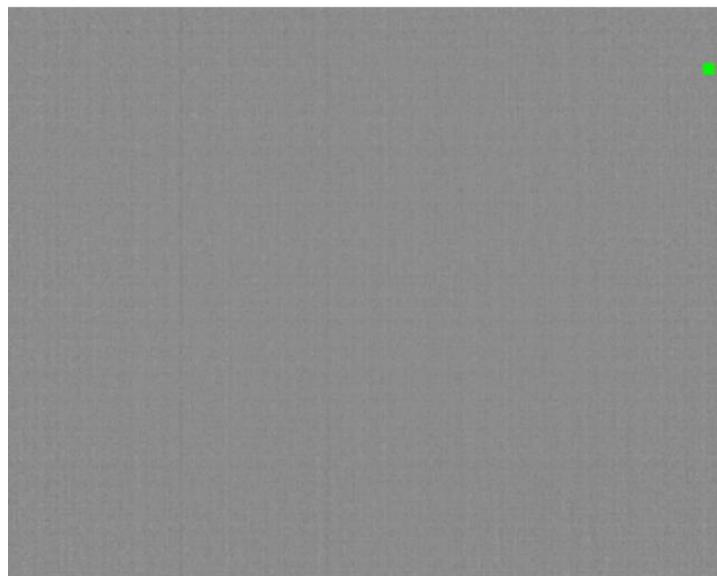

Figure 35: “FFC Imminent / In Progress” Symbol (Factory-Default); upper right corner
- FFC In Progress: By factory default, the symbol shown in Figure 35 is displayed whenever the FFC State = “FFC Imminent” or “FFC in Progress”. (See Section 7.9 for full description of the FFC states.)